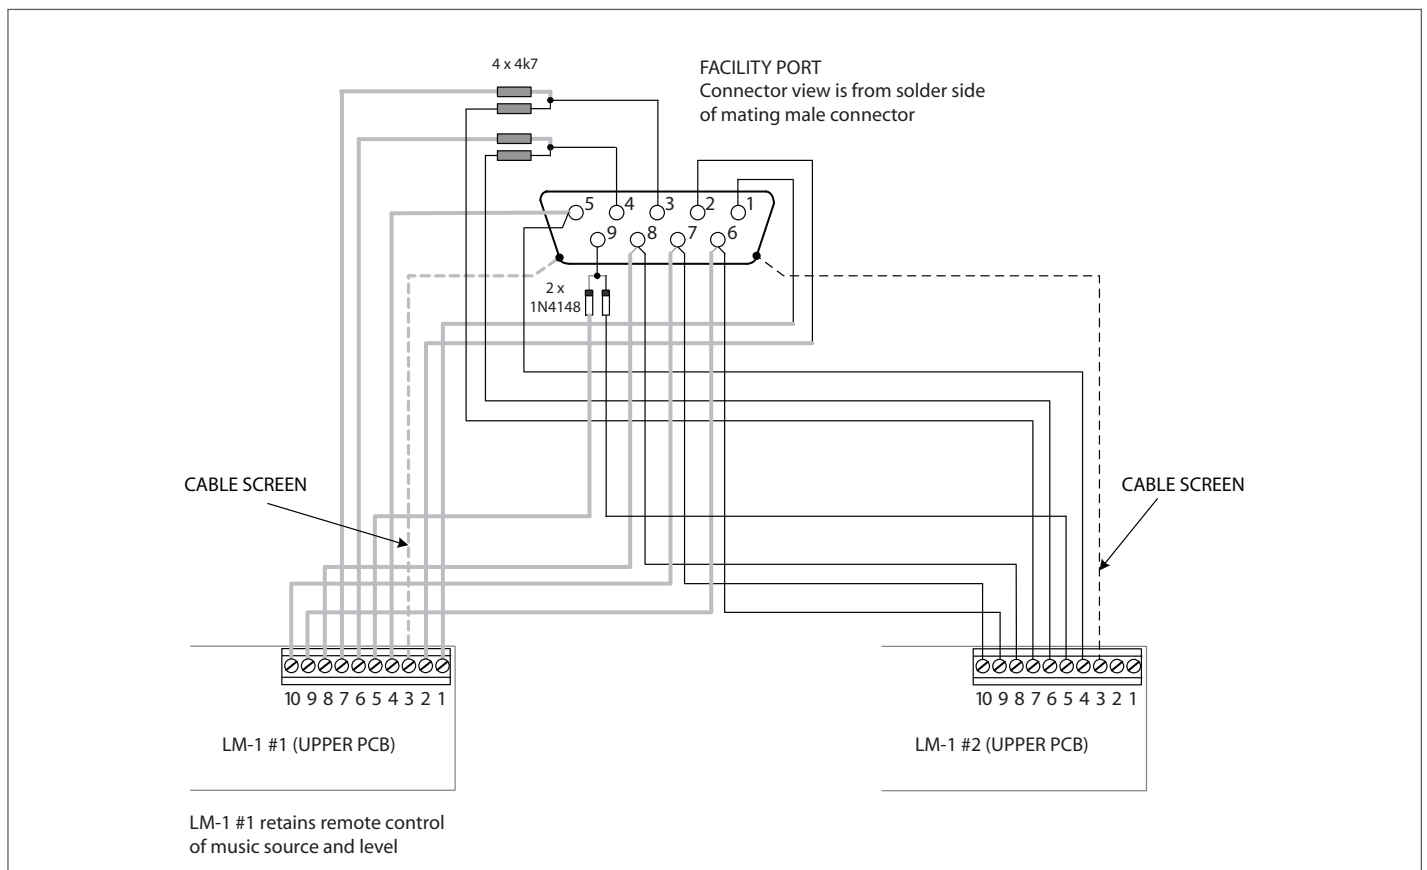

Fig. 7
6. The multicore cables from the two LM-1s may now be connected up. Refer to Table 1 and Fig. 7
5. Solder the cores of the cables from the two LM-Is to the tagstrips, following the wiring shown in Fig. 7.
Fig. 7 shows the overall system wiring which is achieved by either Method 1 or Method 2.